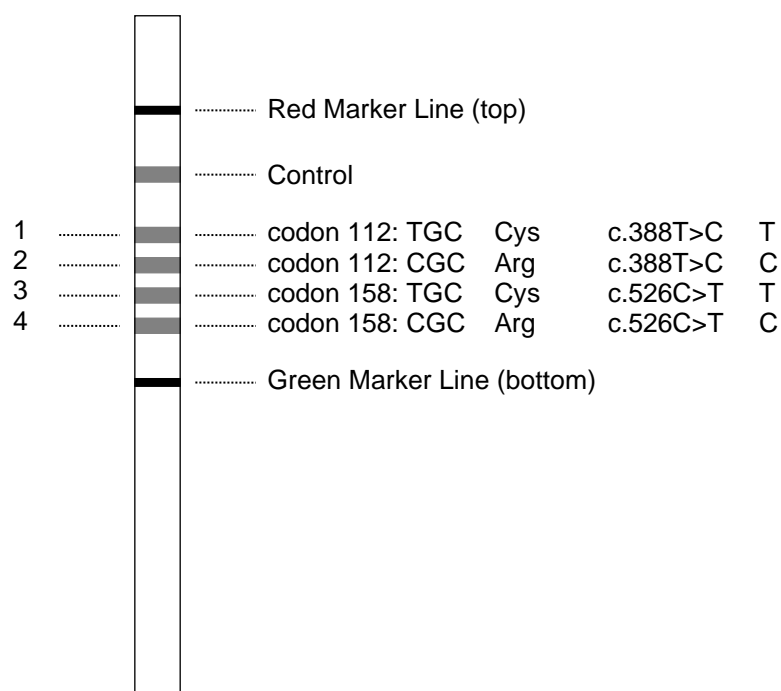

Fig. 1: Teststrip Design
The procedure includes three steps: (1) DNA isolation, (2) PCR amplification using biotinylated primers, (3) hybridization of amplification products to a test strip containing allele-specific oligonucleotide probes immobilized as an array of parallel lines (Fig. 1). Bound biotinylated sequences are detected using streptavidin-alkaline phosphatase and color substrates.